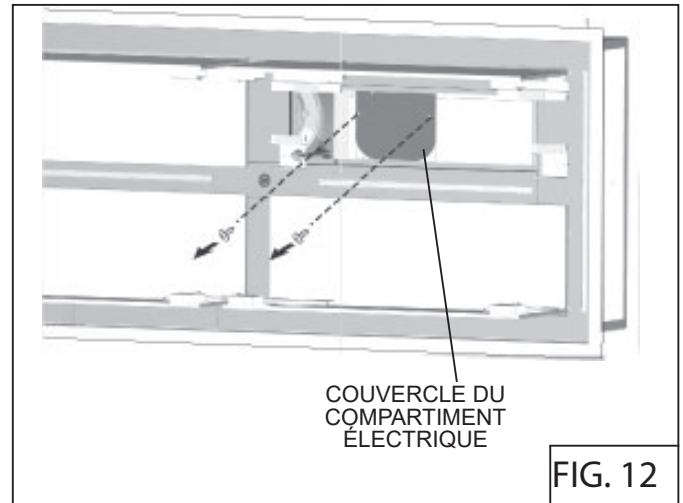

FIG. 12
Remove electrical compartment cover by removing (2) screws (Fig.12).